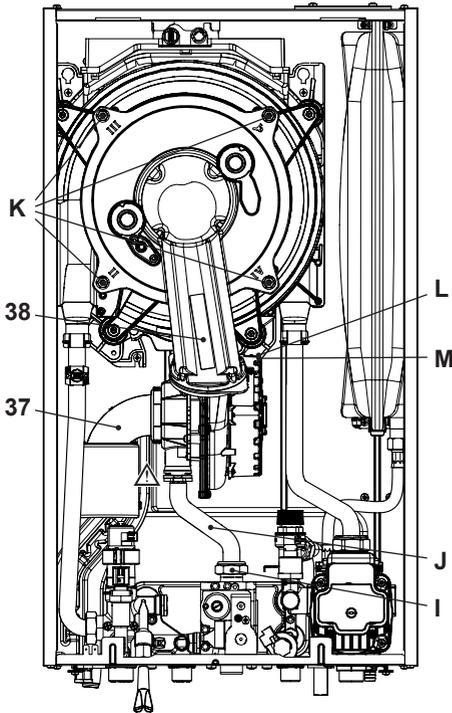
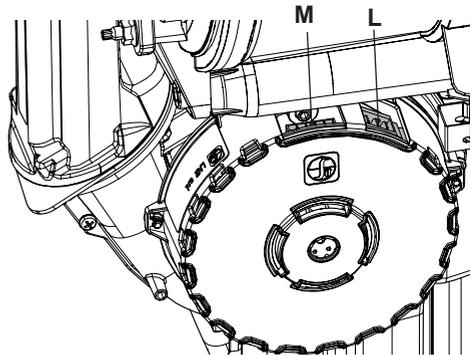

Figure 9.6
Figure 9.7
Removing the burner fan unit 38 in Figure 9.6.
- Disconnect the silencer 37 (Figure 9.6).
- Disconnect the connector L by pulling it (Figure 9.6 - Figure 9.7).
- Disconnect the fan connector M by pressing the plastic hook located below the connector (Figure 9.6 - Figure 9.7).
- Loosen the nuts K and remove the fan burner unit 38 (Figure 9.6).